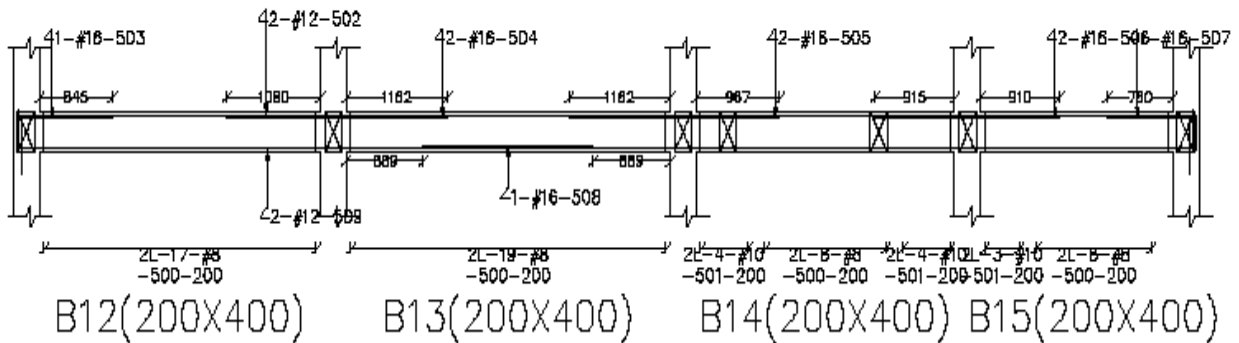

Fig 6.3.7
- Bar Bending Schedule (Fig 6.3.7 & Fig 6.3.8) is obtained for the drawing in AutoCAD